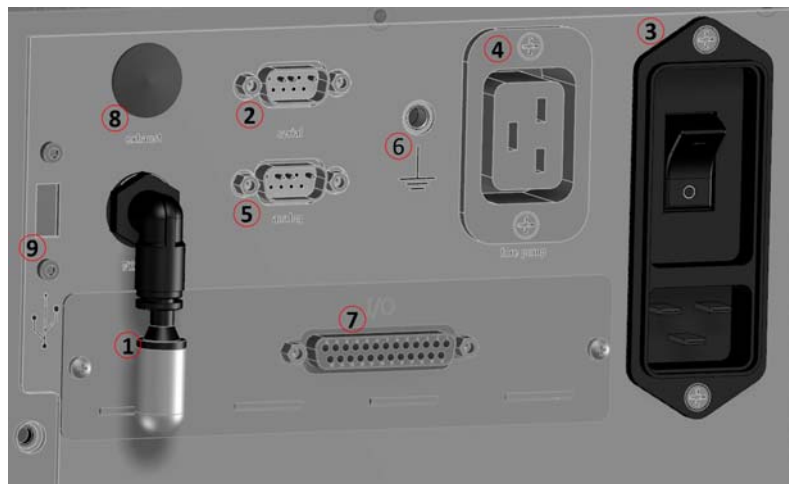

Figure 1-21 Rear Panel (with Discrete I/O PCB)
- ② Cover Plate or I/O PCB Access to expansion slot. This is not used when an optional I/O PCB is installed. A rear panel of the optional I/O PCB is shown in Figure 1-21 on page 49.
The rear panel of the leak detector (Model G8610A and G8610B) is shown in Figure 1-21.